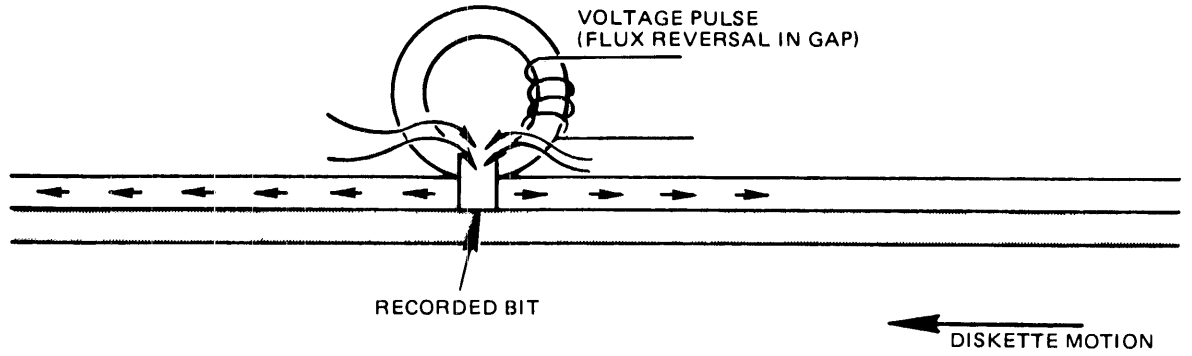

FIGURE 21. READING A BIT
**7.4** During a read operation, a bit is read when the flux direction in the ring is reversed as a result of a flux reversal on the diskette surface. The gap first passes over an area that is magnetized in one direction, and a constant flux flows through the ring and coil. The coil registers no output voltage at this point. When a recorded bit passes under the gap, the flux flowing through the ring and coil will make a 180° reversal. This means that the flux reversal in the coil will cause a voltage output pulse. See Figure 21.